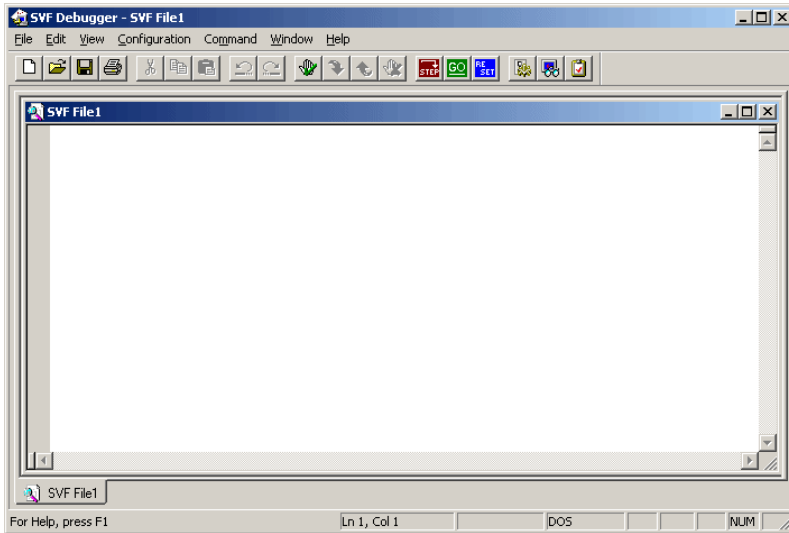
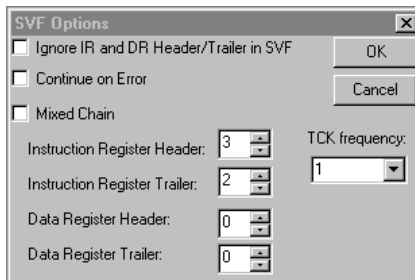

Figure 3-5. Empty SVF File Open in SVF Debugger Edit Window
Figure 3-6. SVF Options Dialog
- Choose **File** ⇒ **New** to open the SVF Debugger Edit Window and create a new empty SVF file. The empty SVF file opens in the SVF Debugger Edit window (Figure 3-5). The SVF Options dialog (Figure 3-6) also opens.
- Choose **Configuration** ⇒ **SVF Options** to open the SVF Options dialog (Figure 3-6).